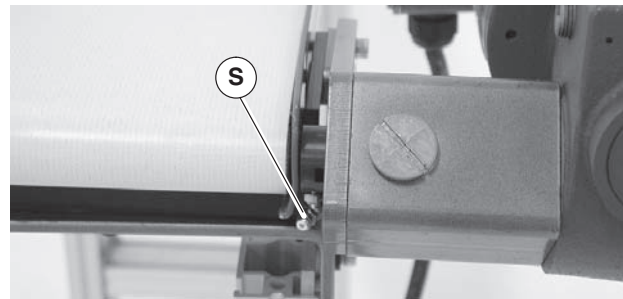

**Figure 7**
2. Lubricate pulley bearing through outboard drive shaft grease fitting (Figure 7, item R).